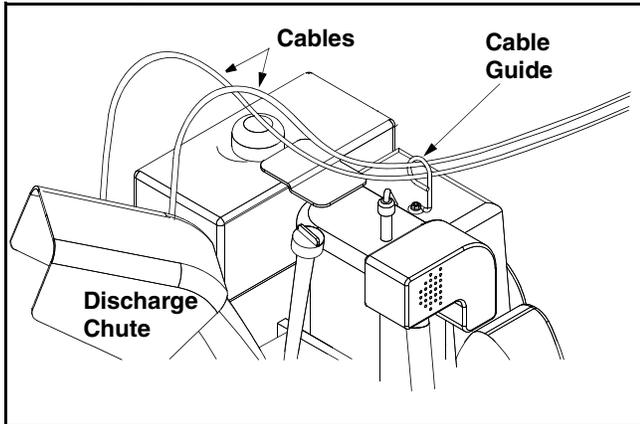

Figure 4
- If not already attached, slip the cables that run from the handle panel to the chute assembly into the cable guide located on top of the engine. See Figure 4.
- If not already attached, unwrap the headlight wire which is attached to the headlight, beneath the handle panel. Wind the headlight wire around the lower right handle until excess slack is removed. See Figure 4.